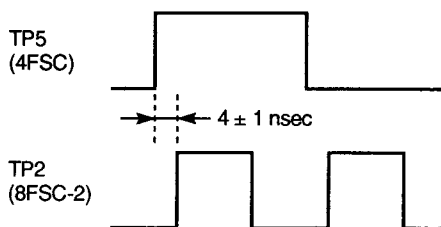

Fig. 5-1-4
- Adjust CT1 to obtain  $4 \pm 1 \text{ nsec}$  as shown in Fig. 5-1-4.